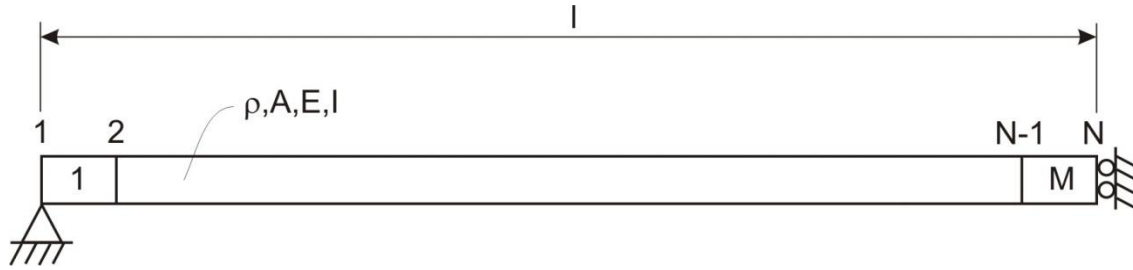

Figure 1.1 Pinned-sliding beam system
Consider the 2D pinned-sliding beam system shown in Figure 1.1. The properties of the steel beam are given in Table 1.1. Only the transversal in plane vibrations of the beam are considered, so axial and torsional vibrations are ignored. The beam is slender. So, when we study transversal vibrations, it suffices to consider pure bending of the beam (shear is neglected). Place the MATLAB command 'format short e' in your MATLAB program before you print numerical results.
- Calculate (see appendix A) the exact analytical solutions of the six lowest eigenfrequencies  $f_{Ok}$  (in Hz) and draw the corresponding eigenmodes of the undamped pinned-sliding beam system in Figure 1.1. Although the pinned-sliding boundary conditions are not in the list, the solutions of a beam with other boundary conditions can be used to calculate/draw the required quantities. Determine also the six lowest angular eigenfrequencies  $\omega_{Ok} = 2\pi f_{Ok}$  (in rad/s).
- A Finite Element model of the undamped beam can be obtained based on Euler beam theory because the beam is slender and shear can therefore be neglected (see Appendix B for Euler beam element matrices). In Figure 1.1, M is the number of beam elements and N is the number of nodes.